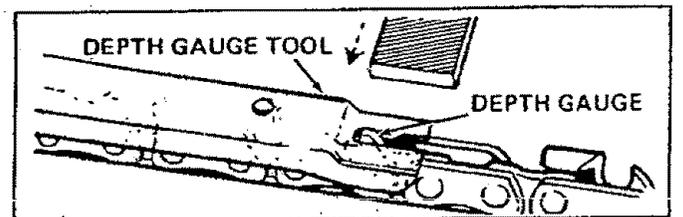

Figure 42
- a.) Place depth gauge tool (Catalog No. 71-36557) over each cutter depth gauge. Figure 42.
- c.) Maintain rounded front corner of depth gauge with a flat file. Figure 42 & 43.